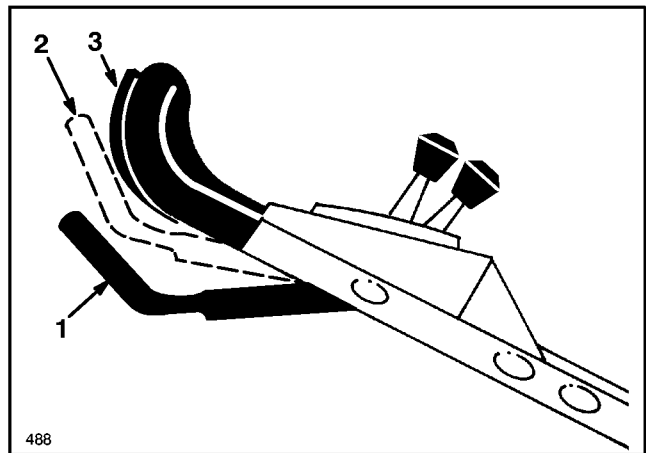

Figure 10
8. WHEEL TRACTION OPERATION (Fig. 10)—Move control bar to the RUN/SHIFT position. Move ground speed control to desired setting and raise control bar to the DRIVE position to self-propel.
IMPORTANT: Do not shift speeds while control bar is in the DRIVE position; the transmission could become damaged and cause shifting problems. To change ground speed, move control bar to the RUN/SHIFT position (Fig. 10) or lower bar far enough to stop the unit from self-propelling.